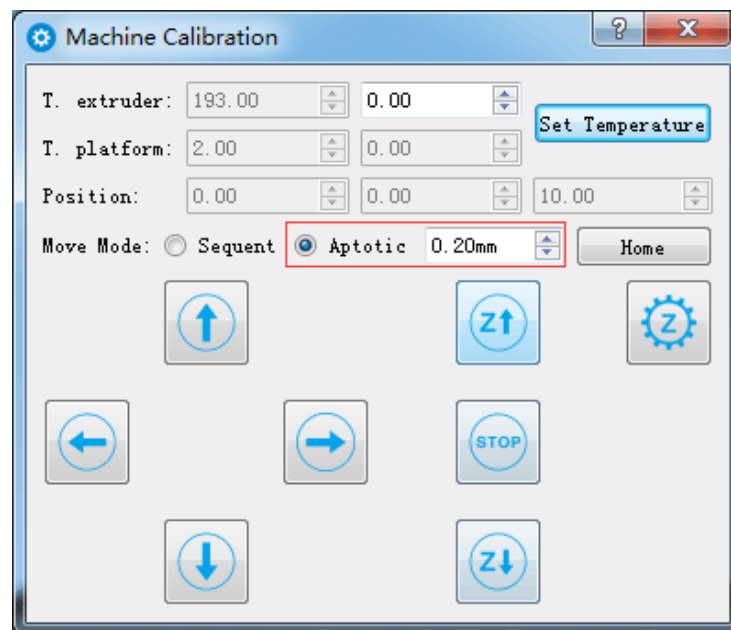

Figure 6.4.3
5. Click“” to lift the platform until it close to the nozzle. Move mode can be chose either Sequent or Aptotic. Please input a proper number in entry field when use Aptotic, avoiding the number too large to hit the platform. This step should be operated carefully. See figure 6.4.3